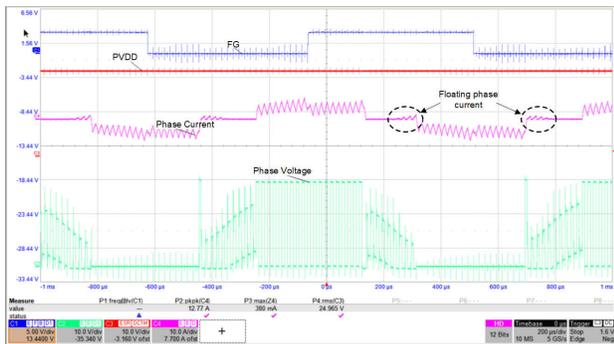

Figure 3. High Side PWM Modulation
- Mixed PWM Modulation:** The traditional commutation of BLDC motor uses high side modulation where the high side power switch is switched at PWM frequency at the target duty cycle for 120° electrical period. The low side power switch is kept on continuously for 120° electrical period. The other approach can be low side modulation. In either case, there can be current in the floating phase winding while the other phases are switching, as shown in Figure 3. This can reduce the effective torque, and increase the torque ripple, which results in additional power loss and can cause unequal distribution of losses between the high side and low side switches. This results in reduced torque delivery at lower duty cycles.